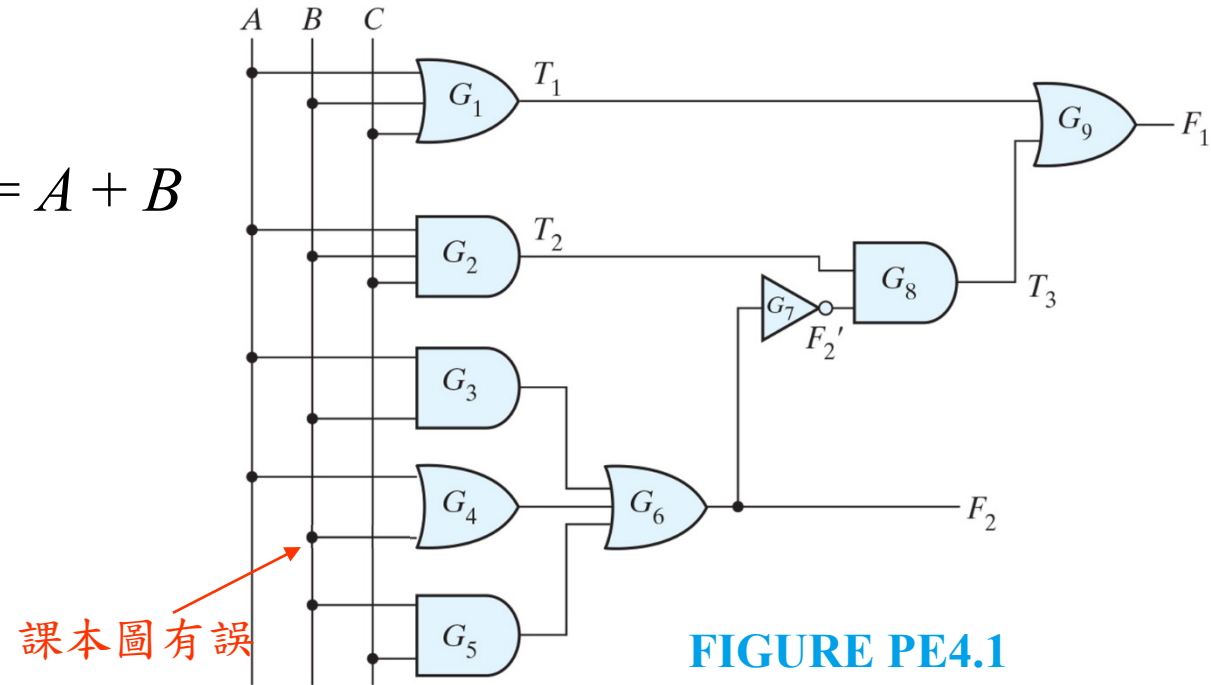

FIGURE PE4.1
- **Practice Exercise 4.1** Analyze the logic diagram in Fig. PE4.1 and find the Boolean expression for F_1 and F_2 .